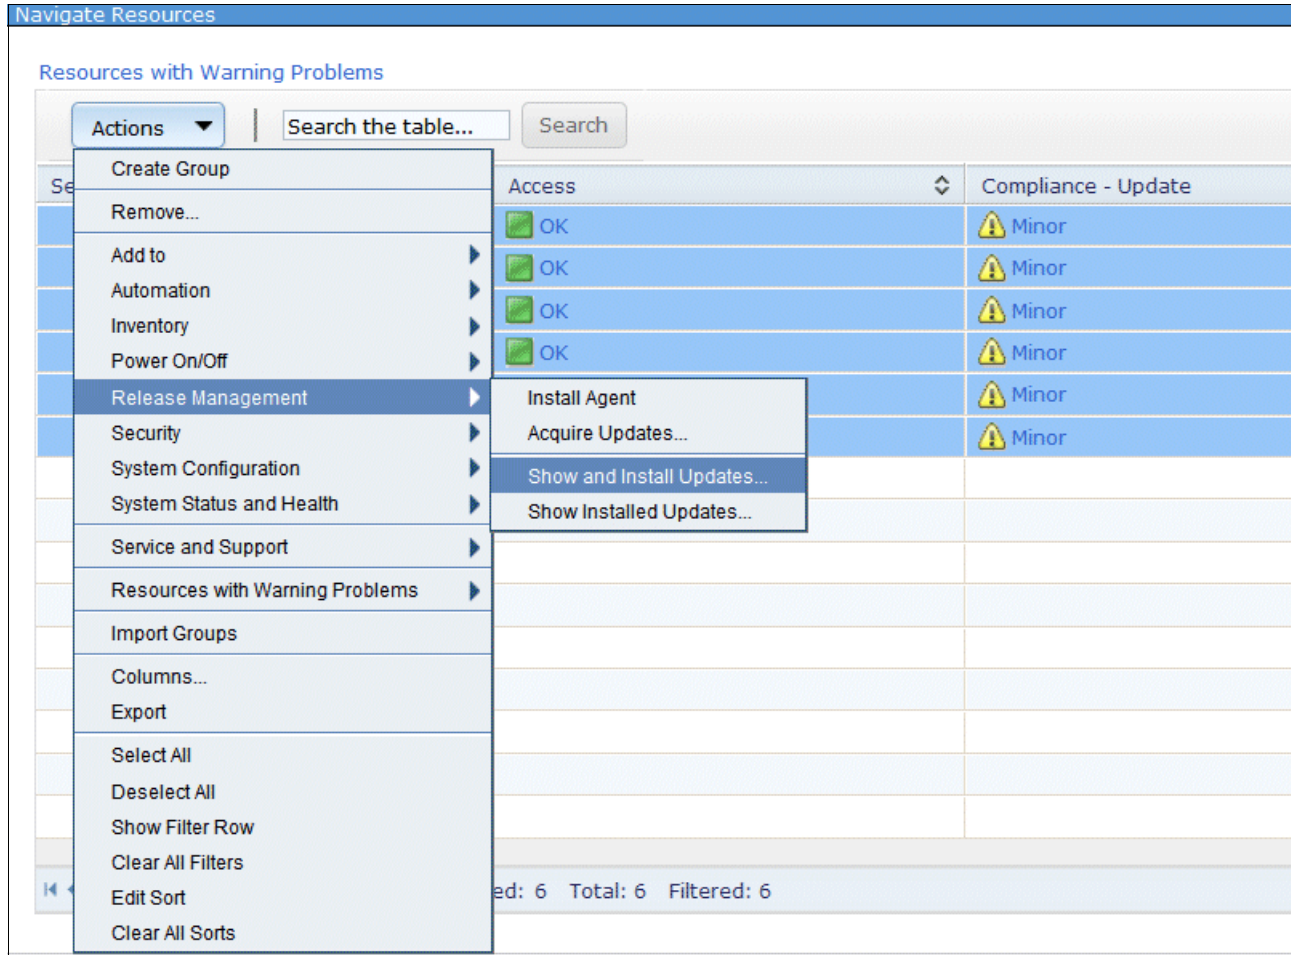

Figure 6-109 Show and Install Updates
- You can see that six systems need minor updates. Click the **6 systems** hyperlink and review which systems need updates. From here, all systems or certain systems can be selected by clicking **Actions** → **Select All**. Then, click **Actions** → **Release Management** → **Show and Install Updates**, as shown in Figure 6-109, to deploy the updates.